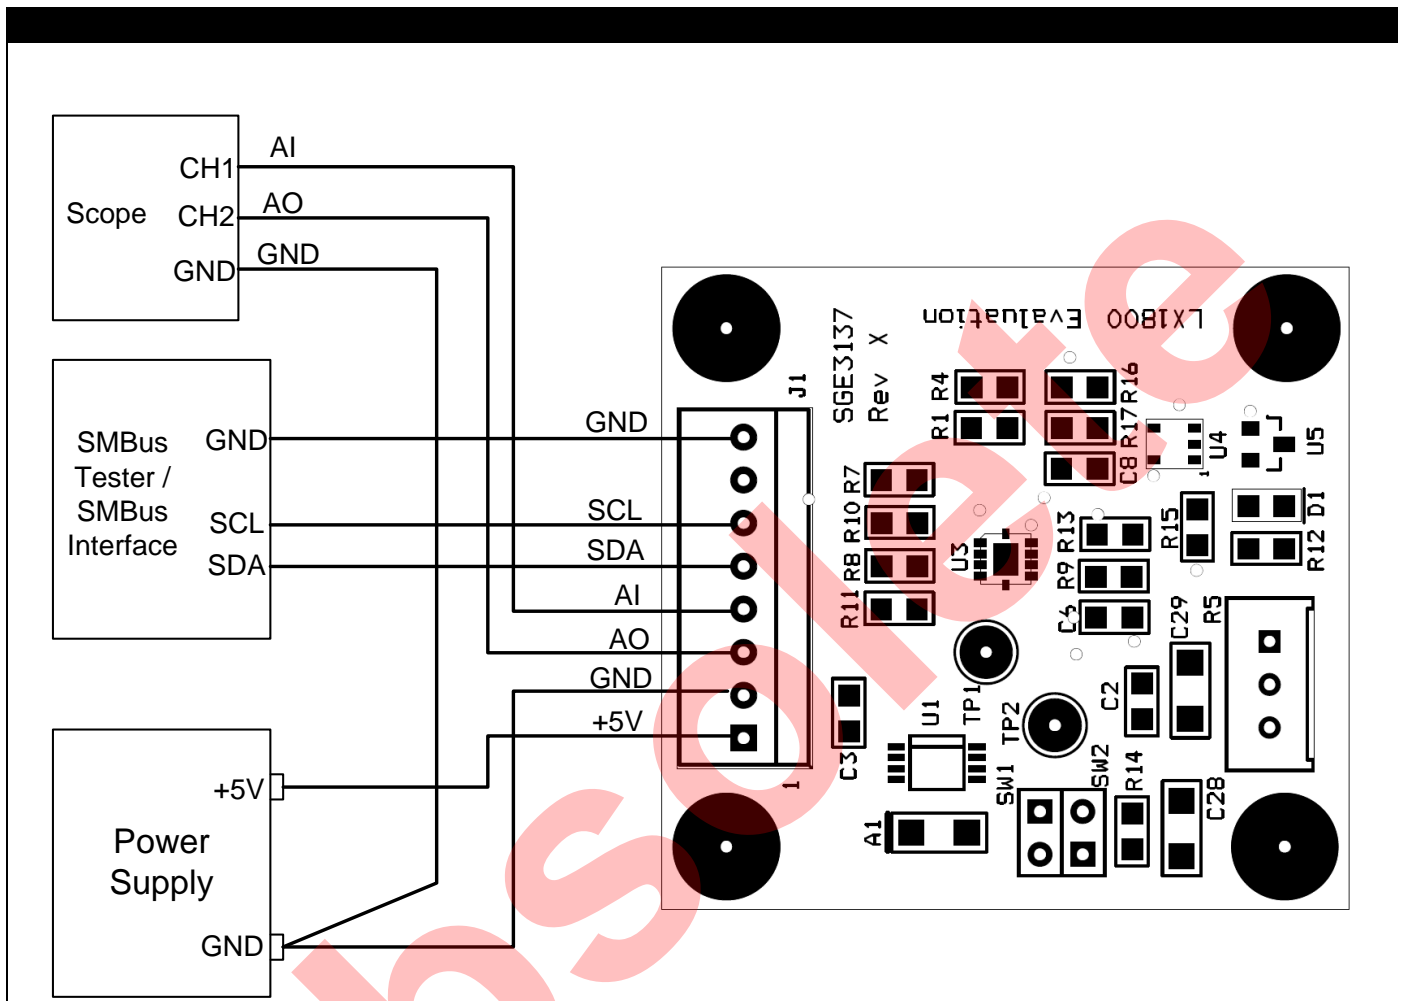

Figure 4 - LX1800 Typical Test Hookup
**Connections:** The LX1800 Evaluation Board has a 8-pin connector connecting to outside power and signals. The connection pin names and functions are listed below. Figure 4 is a suggested test connection diagram.
- 1) Make connections as shown in Figure 4. Apply 5V power source to the board. Measure Pin 1 and Pin 2 on connector J1 by using multimeter (Red lead to pin 1, black lead to pin 2) to verify +5V power is supplied to the board.